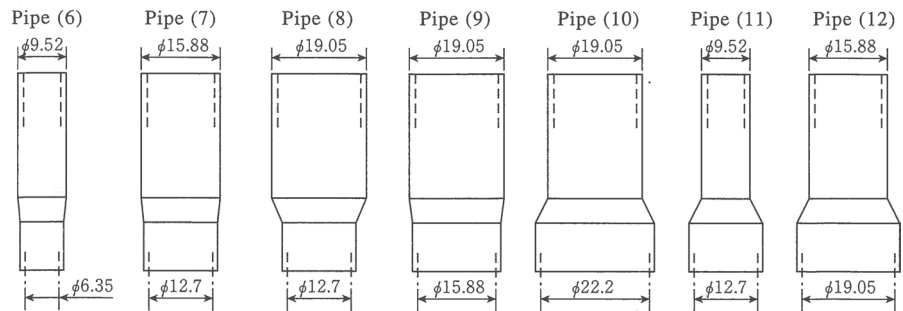

Fig. 2 (liquid pipe)
- Fit pipe cover (4) to liquid pipe (thin) (2) to attach it
Use heat insulator sealing tape (procured at local site) to seal the butted portion of pipe cover (4) (see Fig.2).
- Process gas pipe (thick) (3) in the same way as liquid pipe (thin) (2).